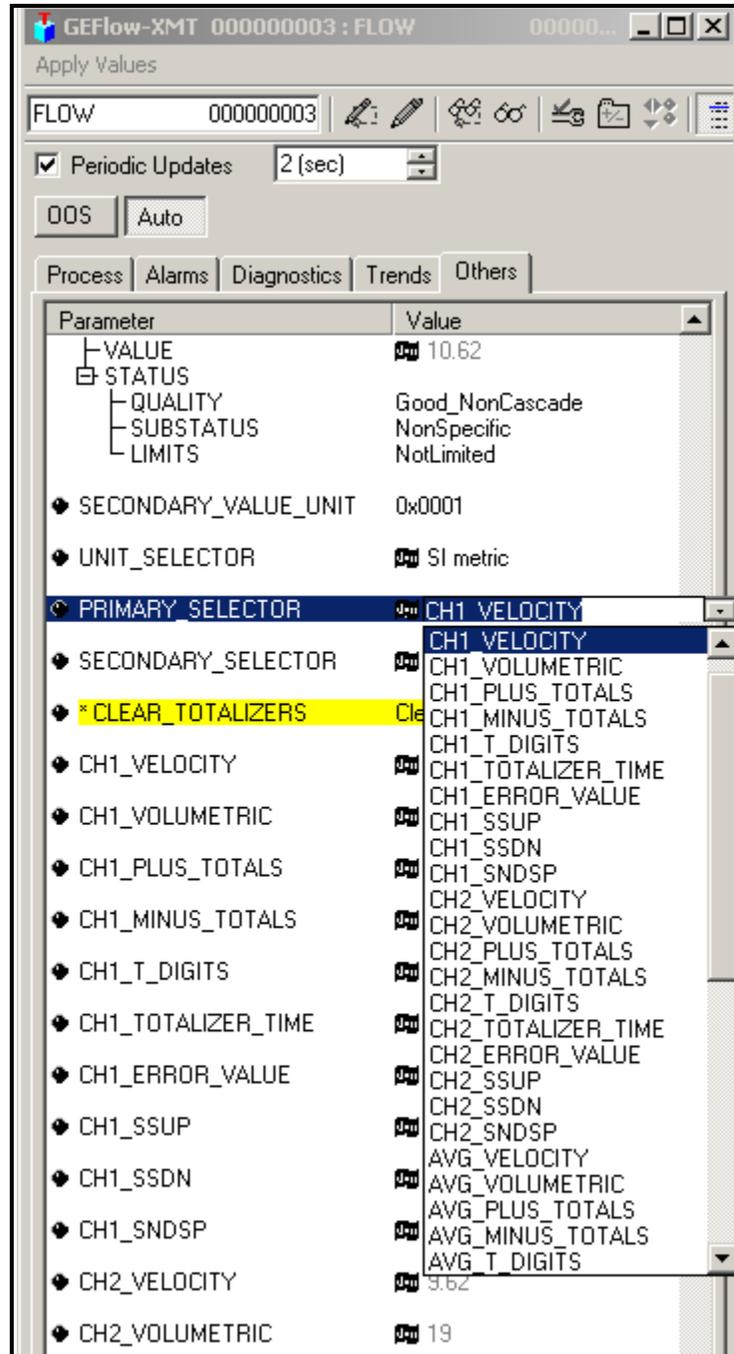

Figure D-2: Primary Selector Drop Down List
2. Select the **Others** tab and open the drop down list for the PRIMARY\_SELECTOR and SECONDARY\_SELECTOR (refer to Figure D-2 on page D-3).
3. Choose the unit from the list (see Figure D-2 on page D-3).